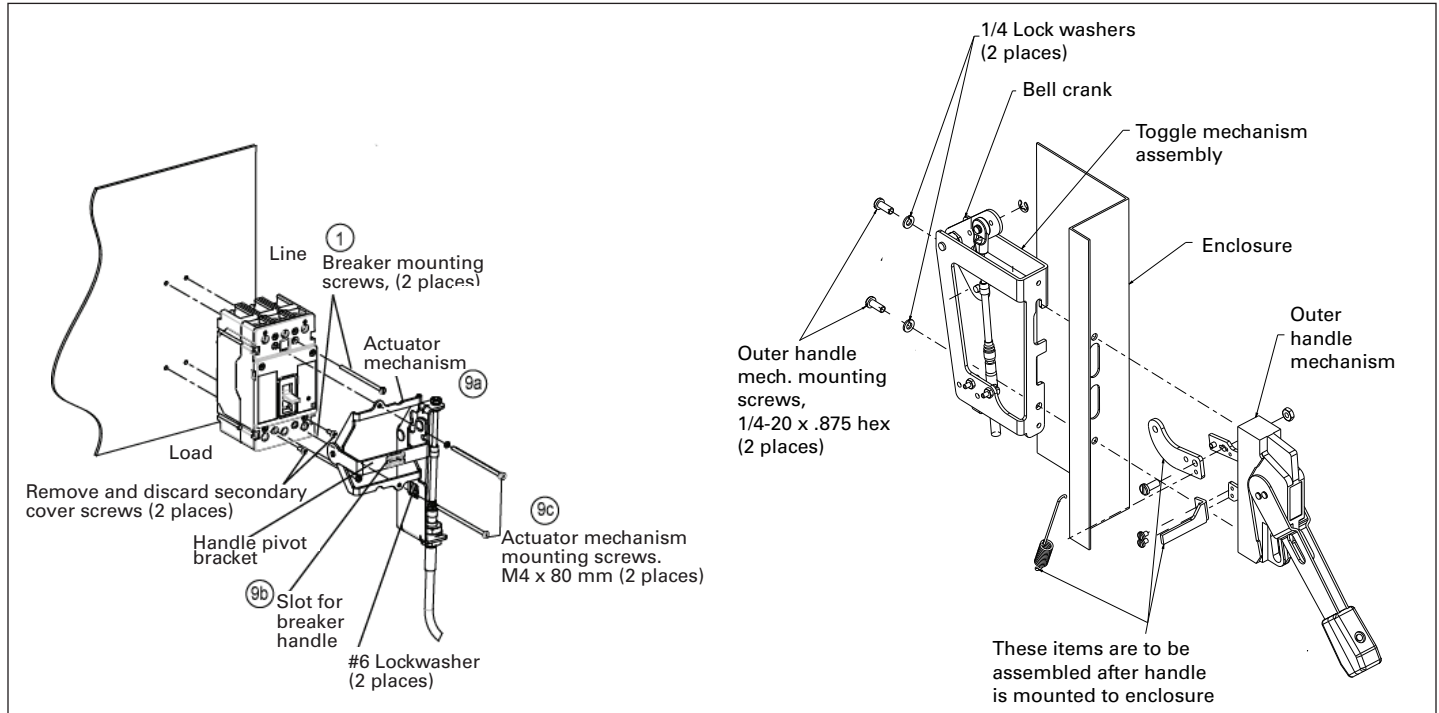

Figure 3. Securing the actuator mechanism to the breaker, toggle mechanism, and handle to enclosure.
For assembly steps, refer to Figure 3, unless otherwise noted.
8. Remove and discard the two secondary cover screws shown in Figure 3. Verify that the breaker is in the "Trip" position. Put outer handle mechanism in the trip position for ease of mounting the actuator mechanism.
9. Place actuator mechanism around the front of the breaker (see Figure 3). Orient handle pivot bracket so that the slot captures the breaker handle. Fasten securely with the two M4 x 80 mm actuator mechanism/breaker mounting screws and lock washers, as shown.